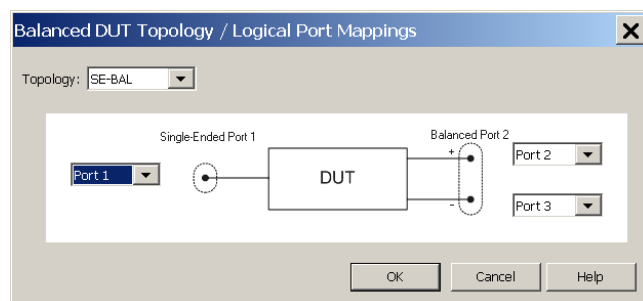

Figure 30 Logical Port Mapping for OE measurement
For OE measurements the single- ended (SE), logical port 1 is assigned to physical port 1 and the balanced (BAL), logical port 2 is assigned to the physical ports 2 and 3 (see Figure 30).